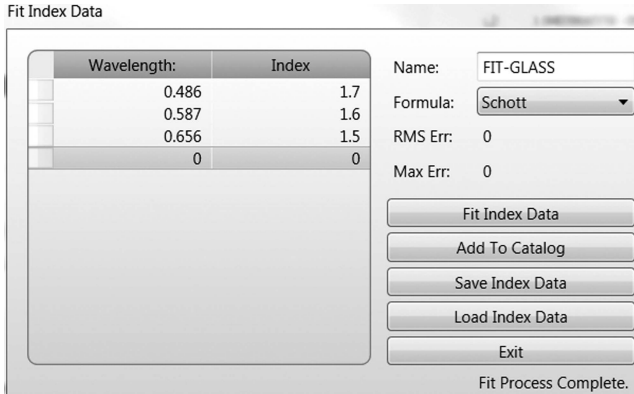

FIGURE 9.5 A *Fit Index Data* box.
3. Clicking *Fit Index Data* button, we can open a *Fit Index Data* box, as shown in Figure 9.5, where we can type in the data pair of wavelengths and indexes provided by the melt data.